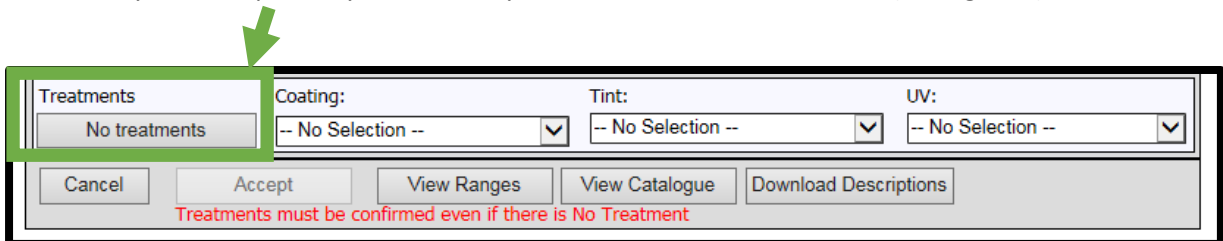

Fig 13.0
20. If you do require any treatments you MUST select No treatments (see fig 13.0)